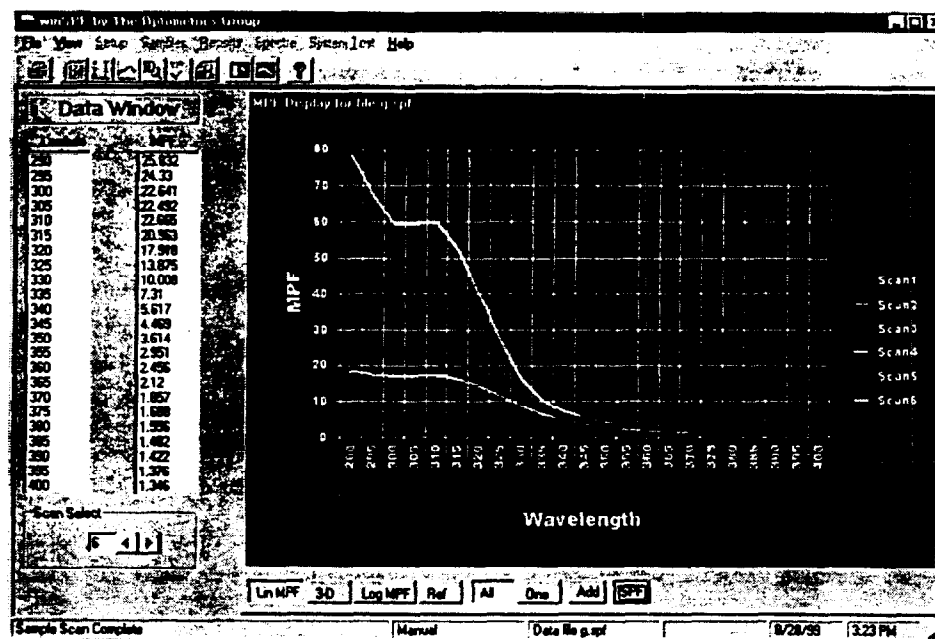

Figure 21 - The Sample Scan Screen
**Sample Scan** – Figure 21 shows the display at the completion of a set of sample scans. Several controls have been added to the display. At the bottom of the **Data Window** is a **Scan Select** control. Clicking the right arrow increments the scan number display and changes the data in the **Data Window** to that corresponding to the scan shown in the **Scan Select** display. By clicking the left arrow the scan number is decremented. Thus, the user can review the raw data from all scans.